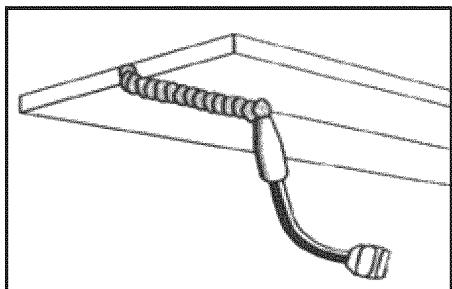

Fig. 10c
- **OVERHEAD POSITION** Is the most difficult welding position. Angle A (see HOLDING THE TORCH) should be maintained at 60 degrees. Maintaining this angle will reduce the chances of molten metal falling into the nozzle. Angle B should be held at zero degrees so that the wire is aiming directly into the weld joint. If you experience excessive dripping of the weld puddle, select a lower heat setting. Also, the weave bead tends to work better than the stringer. (Fig. 10c)